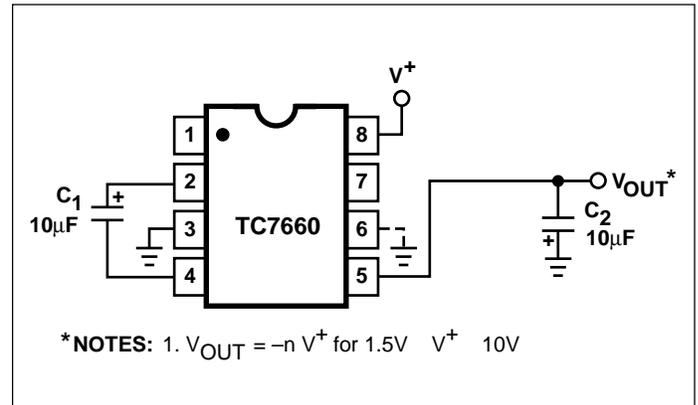
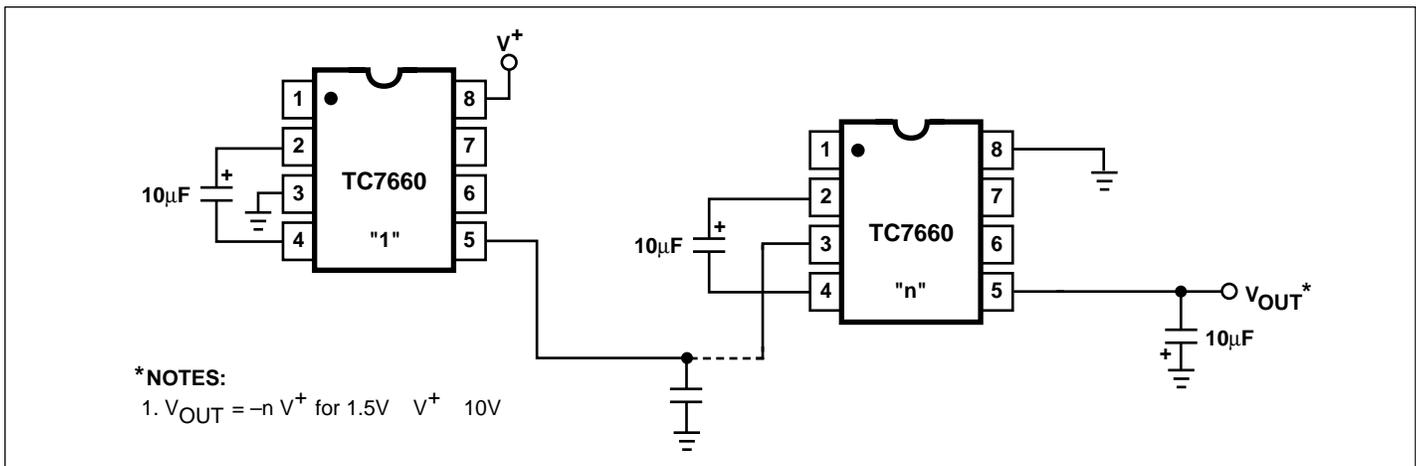
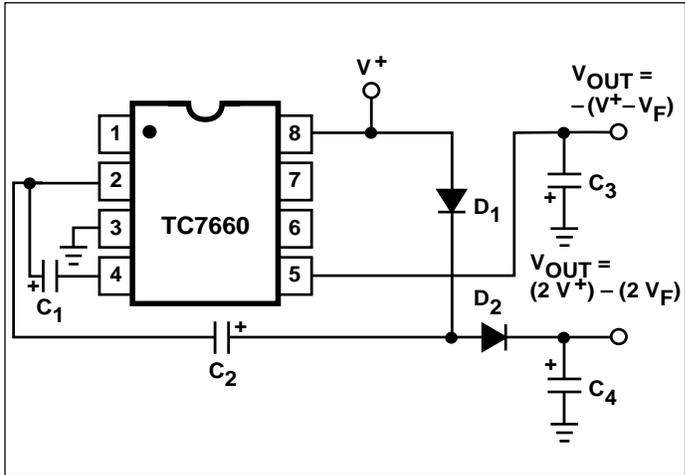
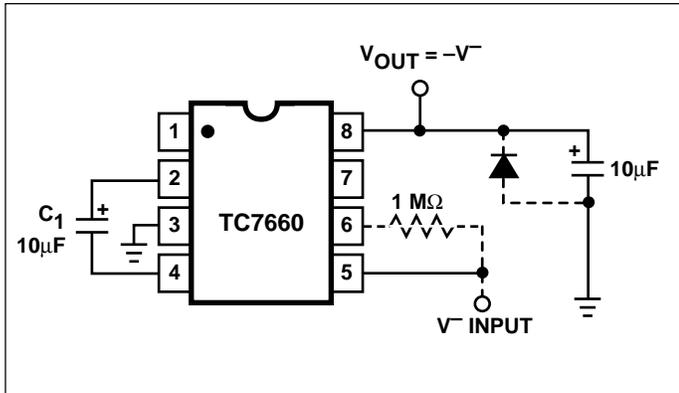

Figure 3. Simple Negative Converter
Figure 5. Increased Output Voltage by Cascading Devices
Figure 9. Combined Negative Converter and Positive Multiplier
Figure 10. Positive Voltage Conversion
Figure 3 shows typical connections to provide a negative supply where a positive supply is available. A similar scheme may be employed for supply voltages anywhere in the operating range of +1.5V to +10V, keeping in mind that pin 6 (LV) is tied to the supply negative (GND) only for supply voltages below 3.5V.
The output characteristics of the circuit in Figure 3 are those of a nearly ideal voltage source in series with 70Ω . Thus, for a load current of -10mA and a supply voltage of +5V, the output voltage would be -4.3V .
Figure 9 combines the functions shown in Figures 3 and 8 to provide negative voltage conversion and positive voltage multiplication simultaneously. This approach would be, for example, suitable for generating +9V and -5V from an existing +5V supply. In this instance, capacitors C_1 and C_3 perform the pump and reservoir functions, respectively, for the generation of the negative voltage, while capacitors C_2 and C_4 are pump and reservoir, respectively, for the multiplied positive voltage. There is a penalty in this configuration which combines both functions, however, in that the source impedances of the generated supplies will be somewhat higher due to the finite impedance of the common charge pump driver at pin 2 of the device.
Since the switches that allow the charge pumping operation are bidirectional, the charge transfer can be performed backwards as easily as forwards. Figure 10 shows a TC7660 transforming -5V to +5V (or +5V to +10V, etc.). The only problem here is that the internal clock and switch-drive section will not operate until some positive voltage has been generated. An initial inefficient pump, as shown in Figure 9, could be used to start this circuit up, after which it will bypass the other (D_1 and D_2 in Figure 9 would never turn on), or else the diode and resistor shown dotted in Figure 10 can be used to "force" the internal regulator on.
The same bidirectional characteristics used in Figure 10 can also be used to split a higher supply in half, as shown in Figure 11. The combined load will be evenly shared between the two sides. Once again, a high value resistor to the LV pin ensures start-up. Because the switches share the load in parallel, the output impedance is much lower than in the standard circuits, and higher currents can be drawn from the device. By using this circuit, and then the circuit of Figure 5, +15V can be converted (via +7.5V and -7.5V) to a nominal -15V, though with rather high series resistance (~250Ω).